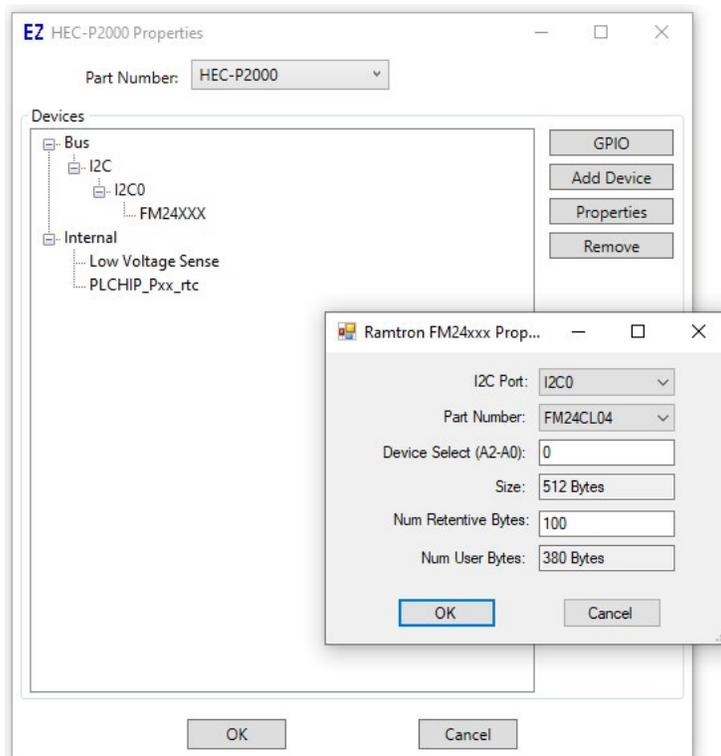

Figure 2.34 - Configure FRAM Memory
4. Enter the number of retentive bytes to use in the target in the **Num Retentive Bytes** box. The maximum available to use is 480 bytes (defaulted to 100 bytes). Refer to Figure 2-34. Any bytes not configured for retentive may be used as **EEPROM memory bytes**. (displayed as Num User Bytes). **Do not select a different Part Number. Verify it is configured for FM24CL04 only.**